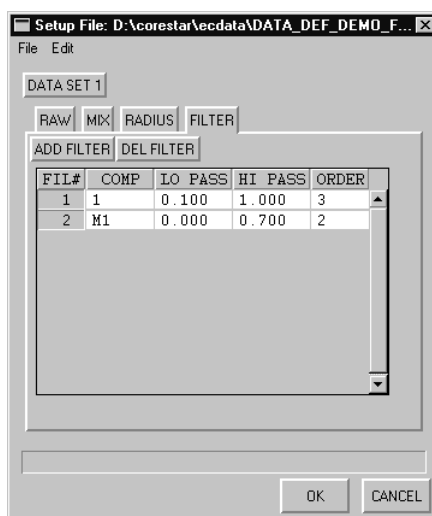

Figure 3-101. Setup Dialog - FILTER Tab
- ❑ **SETUP > FILTER Tab:** The **FILTER** tab on the **Setup** dialog is shown in Figure 3-101. This dialog displays current filter settings, if any, and is used to create new filtered channels. Filtering is useful for signal smoothing, filtering out extraneous noise, etc. Figure 3-101 shows two (2) filter channels. Filter# 1 is setup with a 10% low-pass by a 100% high-pass 3rd order bandpass filter for raw channel number 1. Filter# 2 is setup with a 0% low-pass by a 70% high-pass 2nd order bandpass filter for mix channel M1. The **ORDER** value controls the smoothing effect of the filter. Higher orders smooth signals more while lower orders smooth signals less. The effect of the **LO PASS** (low) and **HI PASS** (high) settings are shown in Table 3-1:
- **Click** the **ADD FILTER** button shown in Figure 3-101 and a new empty filter channel will appear at the bottom of the **FILTER** dialog - much like the **MIX** dialog discussed in the previous topic;